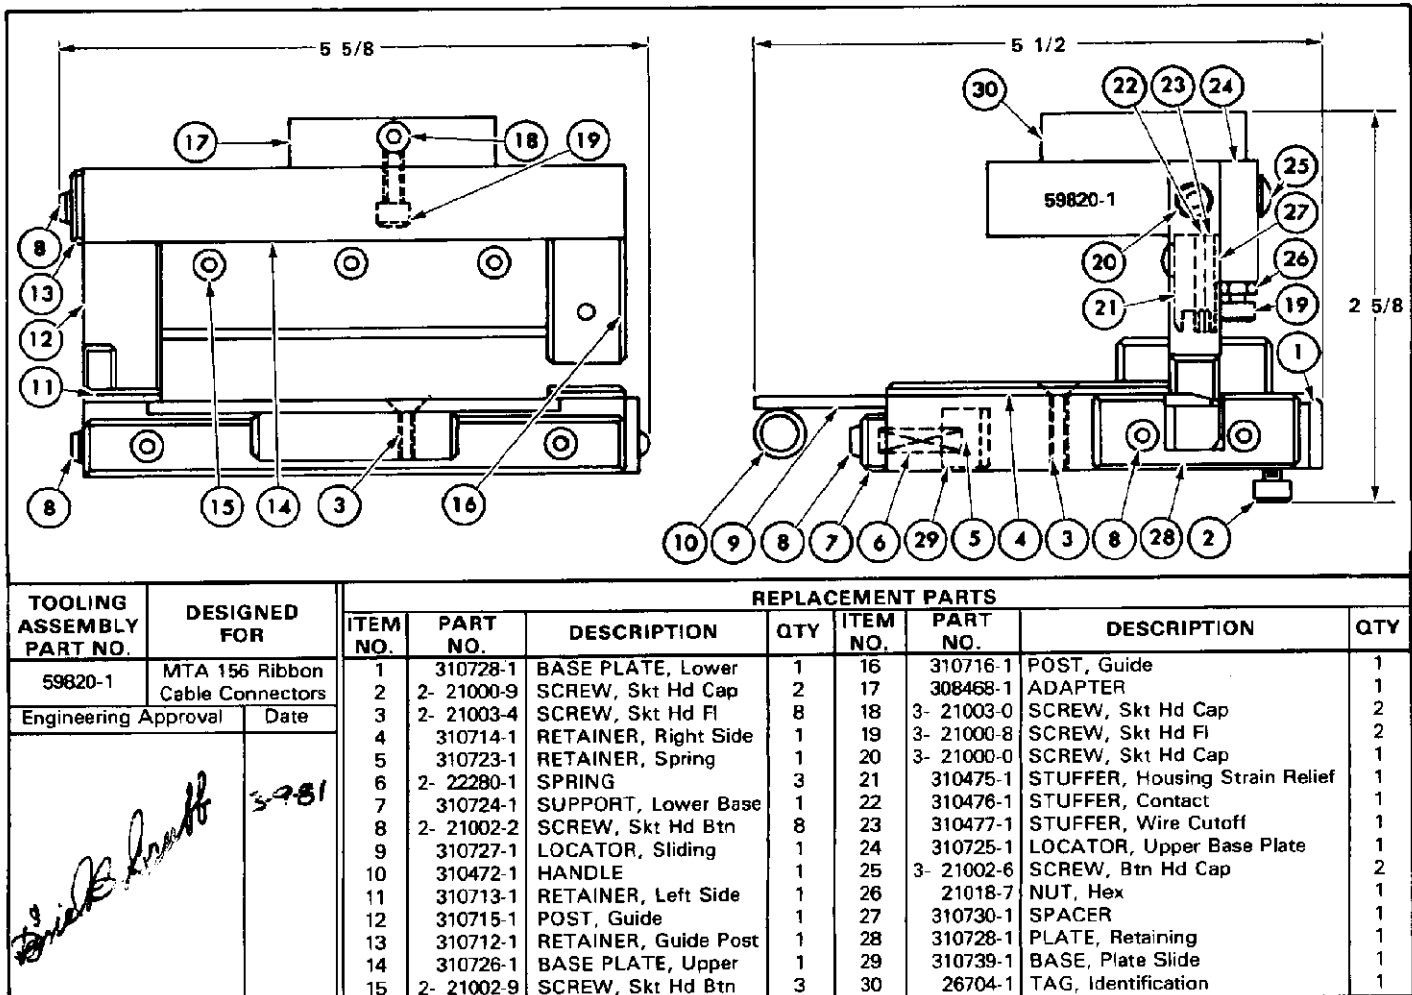

Fig. 6
2. Make sure all components are in place and properly secured. See Figure 6.
Customer replaceable parts are listed in Figure 6. A complete inventory should be stocked and controlled to prevent lost time when replacement is required.
Parts other than those specified in Figure 6 must be replaced by AMP to insure certification of the tool. When repair by AMP is necessary, return the tool with a written description of the problem to: